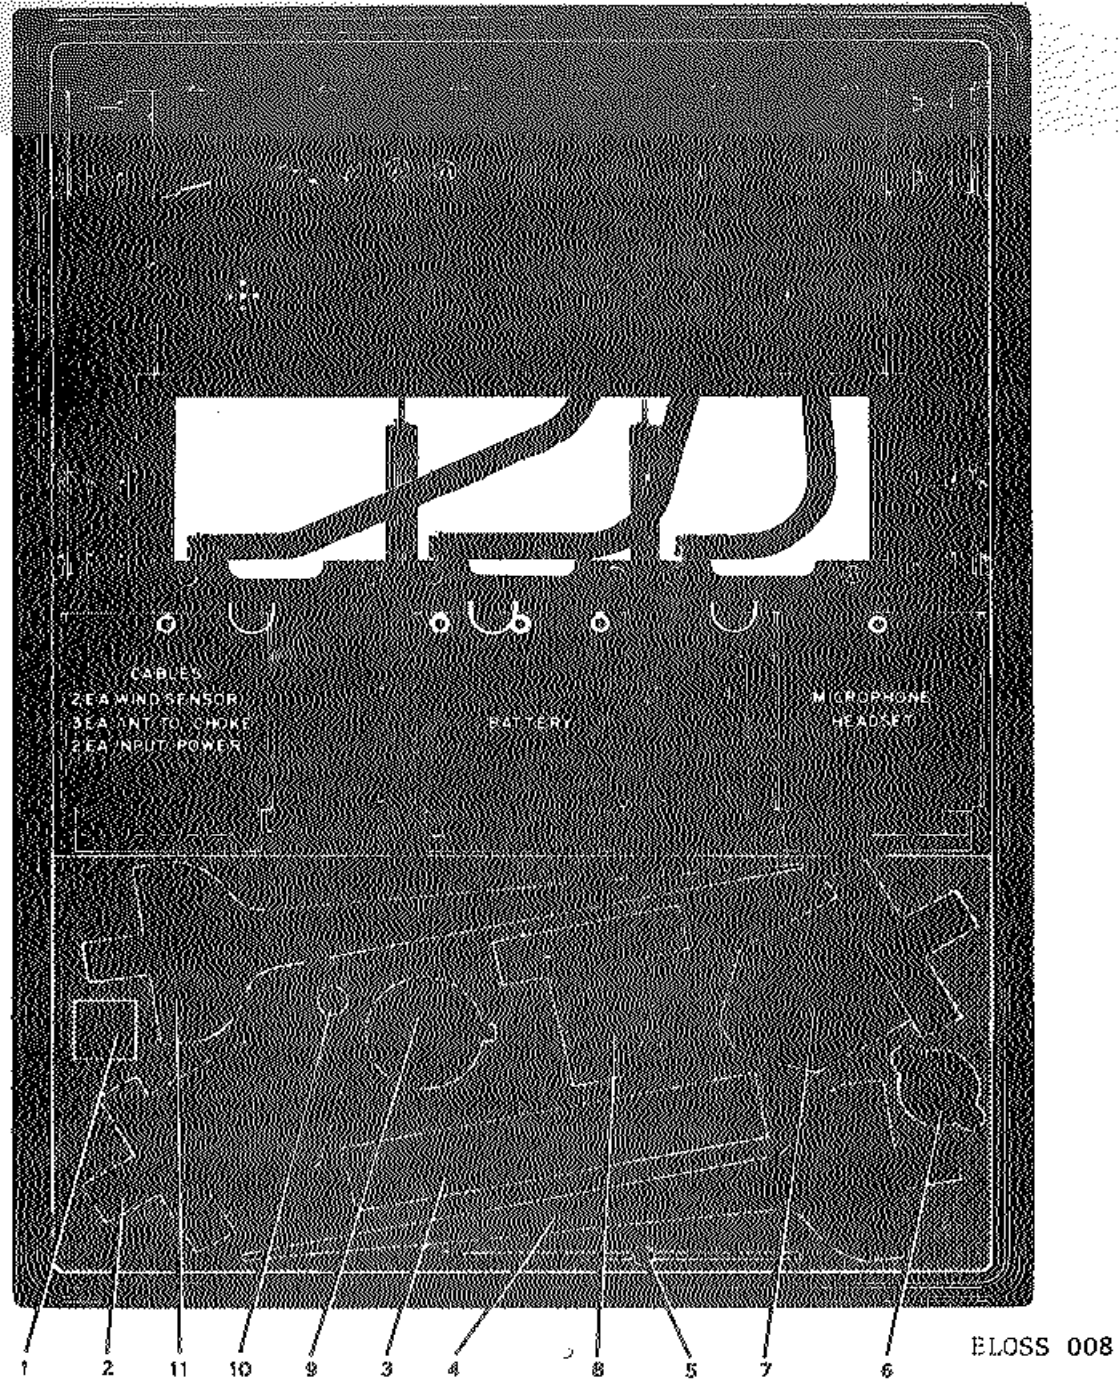

Figure 2-1. Air Traffic Control Facility, Group Assembly
2-7. Equipment Storage During Transit. All items comprising an operable AN/TSQ-97 are stored in the equipment case or in the metal (mast and boom) carrying handles. The BB-451/U is not supplied as a part of the facility; however, space is provided to place the battery during limited transportation. Figure 2-1 is a rear view of the facility showing items stored in the equipment case proper.
c. Mounting Wind Direction and Speed Detector ML-653/TSQ-97. Remove the detector, vane and standoff from the rear storage compartment (see figure 2-1). Insert the vane connection end into the detent socket in the end of the wind speed generator as shown in figure 1-6. Mount the standoff on top of the antenna mast.